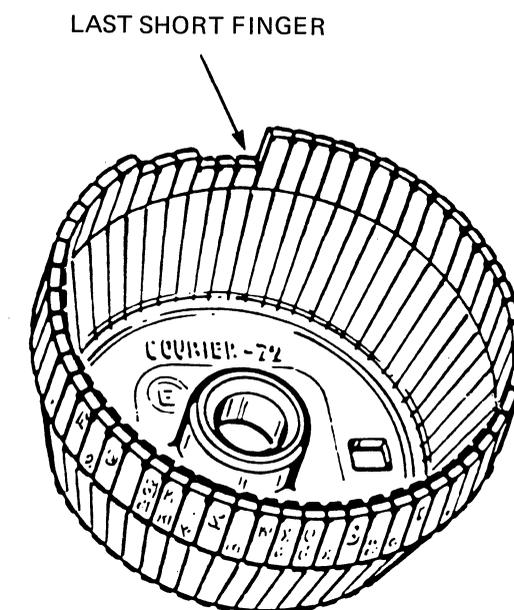

Figure 2-1 Last Short Finger on Print Thimble
- b. Make sure that the last short finger on the right of the cutout of the print thimble (see Figure 2-1) is centered on the hammer when power is on (not on thimbles with more than 125 characters). If not, see Section 5.1.3 for adjustment.